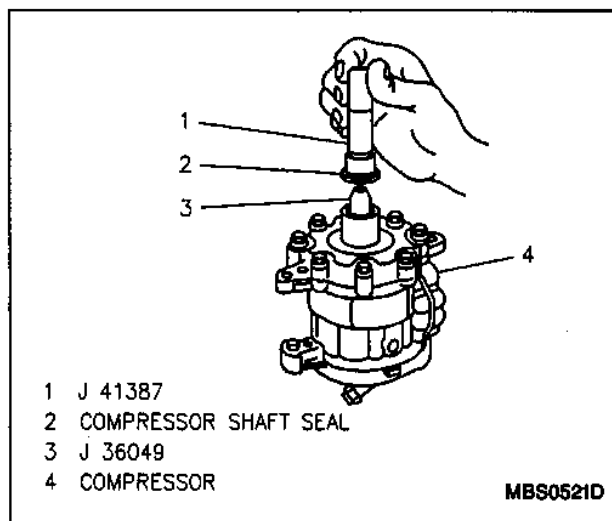

Figure 11—Installing Compressor Shaft Seal
3. Attach J 41387 to a new compressor shaft seal, use tool to slide shaft seal into compressor (Figure 11).